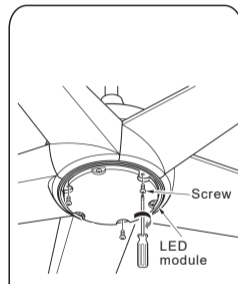

Fig. 24
Step 5: Tighten the LED assembly to light kit plate with 3 screws.(Fig. 24)